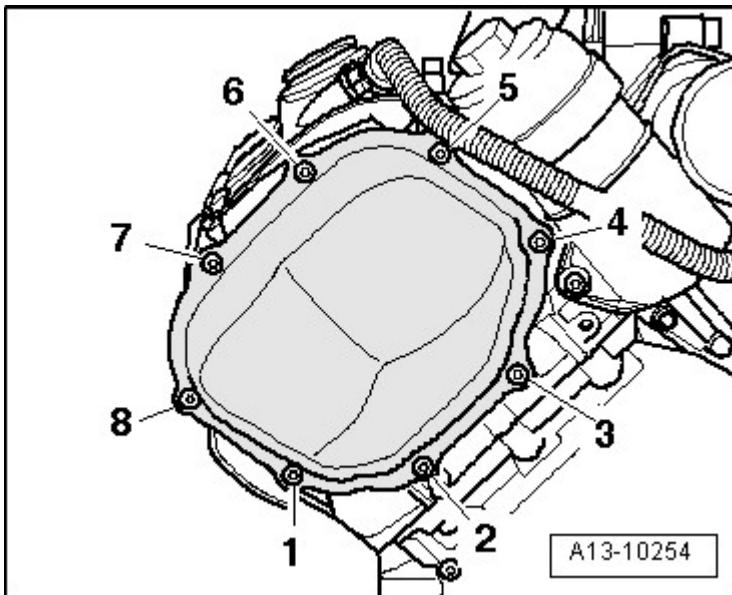

Fig. 2: Left Timing Chain Cover Bolt Tightening Sequence & Specification
- Tightening specification and sequence **Fig. 2**